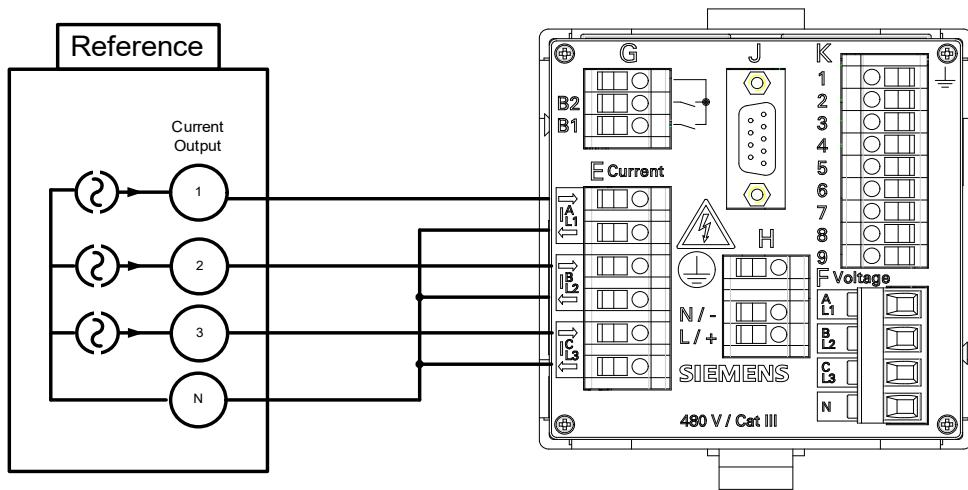

Fig. 10-4 Measurement Setup for Calibrating the AC Current Measuring Range
Calibration is only possible with symmetrical phases ( $3 \times 120^\circ$ ), see figure 10-4.
- ❖ Set up the measurement as shown in figure 10-4.